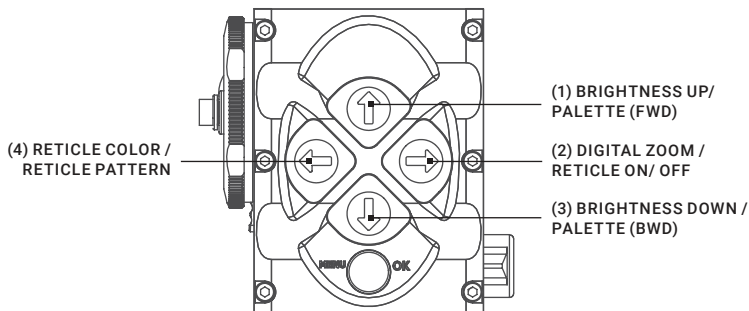

FIGURE 2-19. SETTING BUTTONS
8. Using the buttons on the control panel (Figure 2-19), configure the Python to adapt it to your situation.